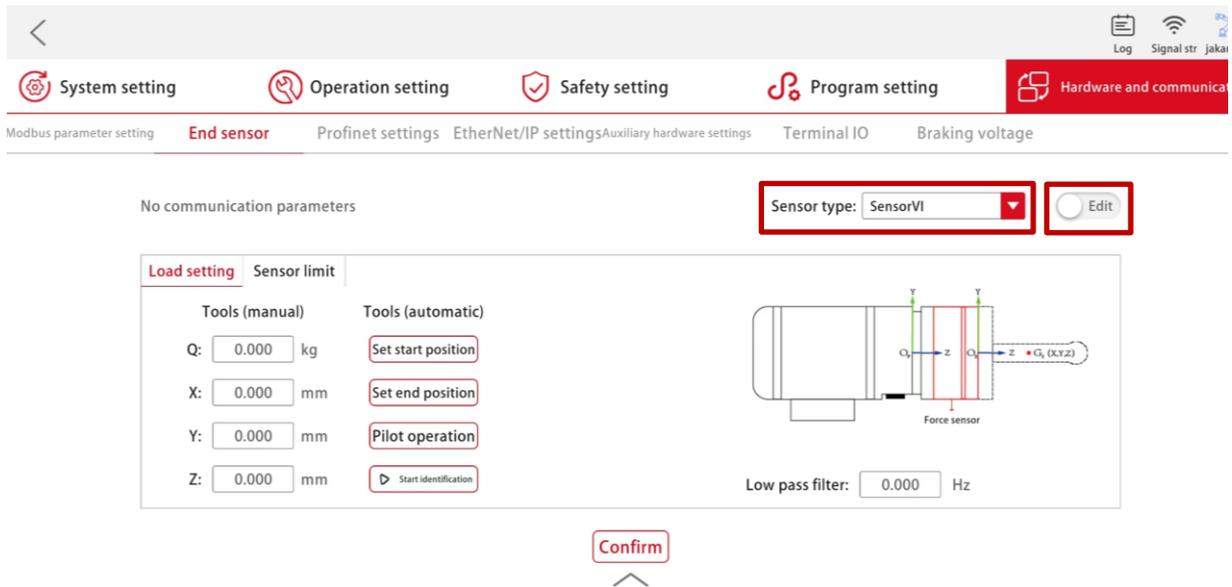

Figure 3-7 Se System Configuration Interface (TIO Type)
f. As shown in Figure 3-7, tap [Settings] at the upper right of the Home page, then tap [Hardware and communication] → [End sensor] to enter the sensor configuration interface. Select the sensor type VI, then tap [Confirm] (Ensure the sensor brand is set successfully), and tap the toggle switch on the right to change its status from [Edit] to [Run]. Then the sensor can communicate properly;